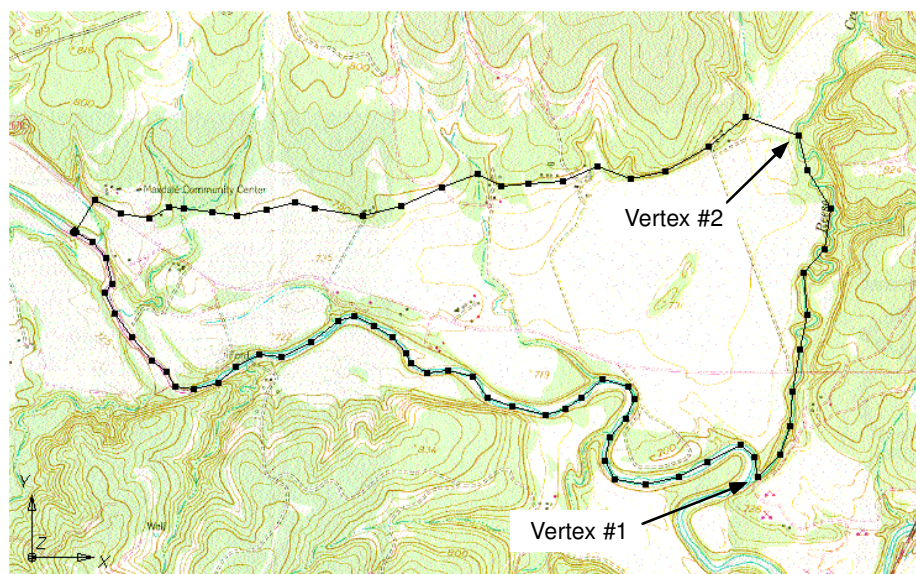

Figure 8-1 Convert Vertices to Nodes.
2. Select the two vertices shown in Figure 8-1. Vertex #1 is located at the junction of the two rivers. Vertex #2 is located at the top of the river on the east side of the model. To select both vertices at once, select the first vertex and then hold down the *Shift* key while selecting the other vertex.